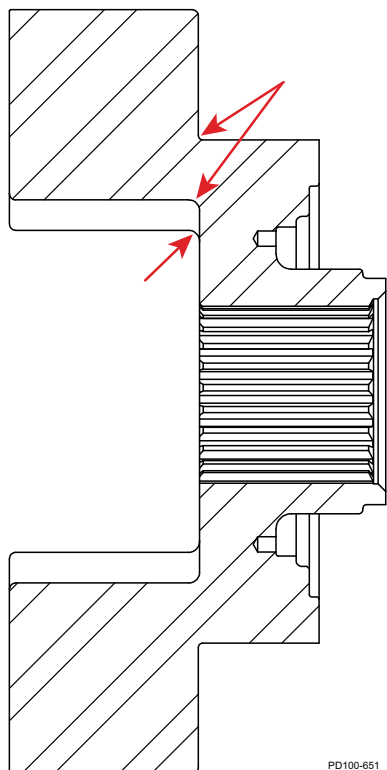

Figure 35 - Rotor Stress Points
- Thoroughly inspect the rotors for worn splines, hub wear and stress cracks (see arrows in Figure 35). Use the dye check method to detect any fatigue-type cracks at rotor stress points.